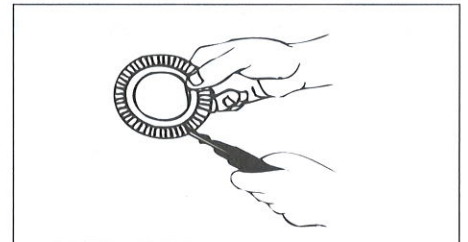

Figure 3
7. Remove the shim from template and using a side cutter, nip the very edge of the slots on either side of the tabs you wish to remove. (this will split the membrane) Next, grasp the tabs with the side cutter and bend **downward** to break tabs at the relief line causing them to neatly separate from shim body. (Fig. 3)